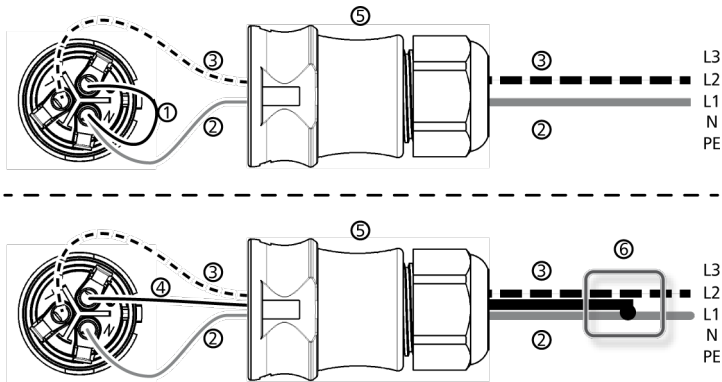

Fig. 12: Connection of N and PE in the AC plug (above) or junction box (below)
- N and L are connected between the L1 – L2 external conductors at the inverter side. See ② and ③ in Fig. 12.
- One of the two connected external conductors is connected to PE at the inverter side. This connection can be made within the AC plug or in an external junction box. Fig. 12 shows an example of an inverter-side connection between L1 and PE:
1. ➔ Wire the AC plug supplied for the selected external conductors as described in the Appendix ④ Appendix „Assembly“ on page 96.
2. ➔ Connect one of the two connected phases to PE at the inverter side. Make this connection inside the AC plug or use an external junction box, as shown in Fig. 12.